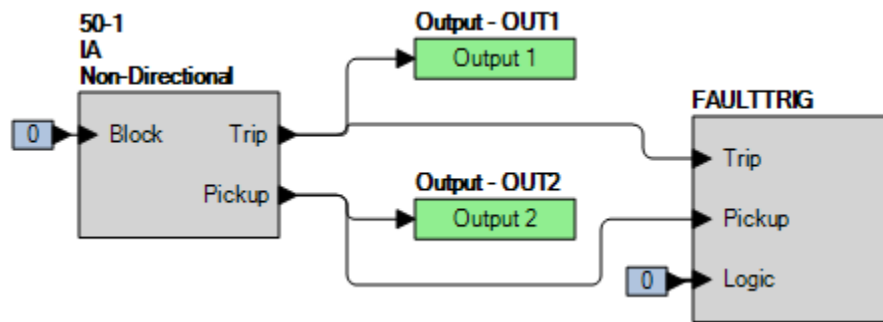

Figure 72-1. BESTlogicPlus Settings (Phase Mode)
Step 2: Use BESTCOMSPPlus to configure the BESTlogicPlus programmable logic shown in Figure 72-1.
- Step 4: Prepare to monitor the 50-1 function operation. Operation can be verified by monitoring OUT2 (see Figure 72-1).